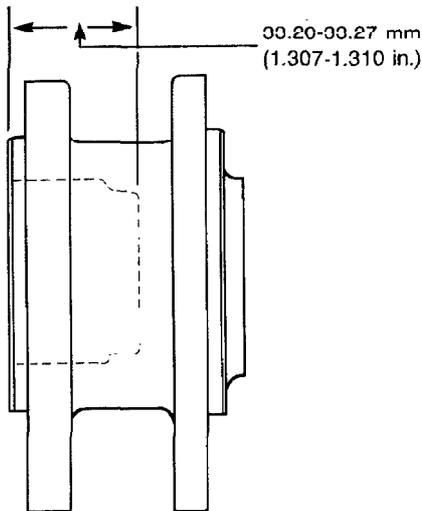

Figure 242 — Front Support Thrust Flange
- l. Inspect the front support for scratches, scoring or wear, then using a suitable depth gauge measure the support thrust flange for wear (see Fig. 242). The standard measurement of the support thrust flange is 33.20-33.27 mm (1.307-1.310 in.) and the wear limit is 32.69 mm (1.287 in.) Replace the support if the measurement is below the wear limit.